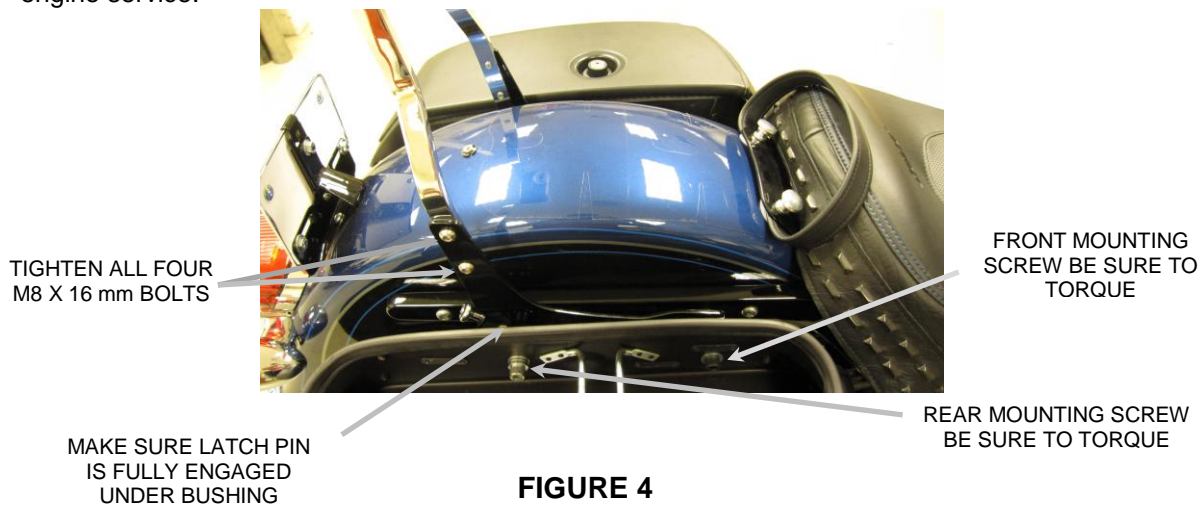

FIGURE 4
6. Pull backward on both detachable latch knobs and then push downward on the backrest to allow the backrest to sit completely on the rear mounting bushings. Then release the detachable latch knob to fully engage the latch pin underneath the mounting kit bushing. See **Figure 4**.
7. Always check to make sure both detachable latch pins are fully engaged on the bottom of the mounting kit bushing. Failure to fully engage the detachable latch pin could cause the backrest to come loose while riding. See **Figure 4**.
8. Pull backward on the top of the sissy bar and then tighten all four M8 X 16mm bolts. See **Figure 4**.
9. Tighten all (4) of the 3/8-16 X 3.0" long Socket head cap screws attaching the saddlebags and bushings to the fender rails. Tighten to factory torque specifications, see **Figure 4**.